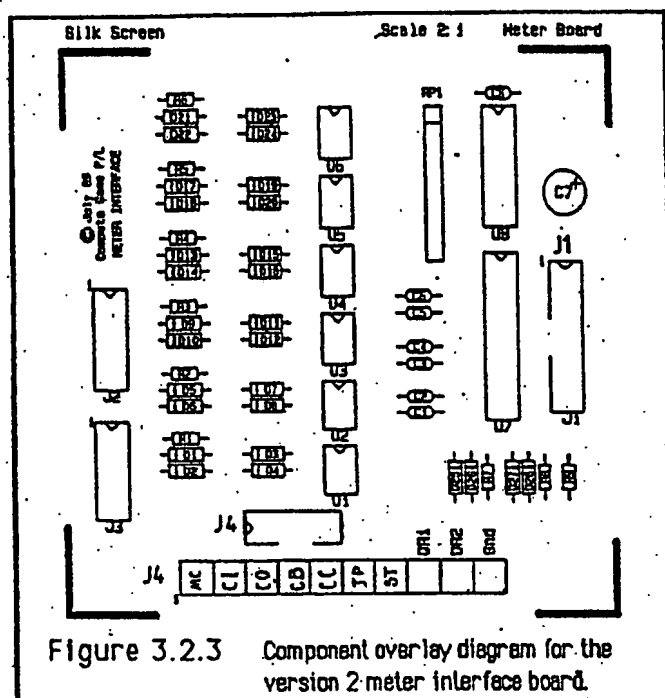

Figure 3.2.3 Component overlay diagram for the version 2 meter interface board.
- Figure 3.2.3 Shows the component overlay diagram for the version 2 meter interface board.
Figure. 3.2.3 shows the component overlay diagram for the version 2 meter interface board; note the placement and orientation of connectors J1 and J4.